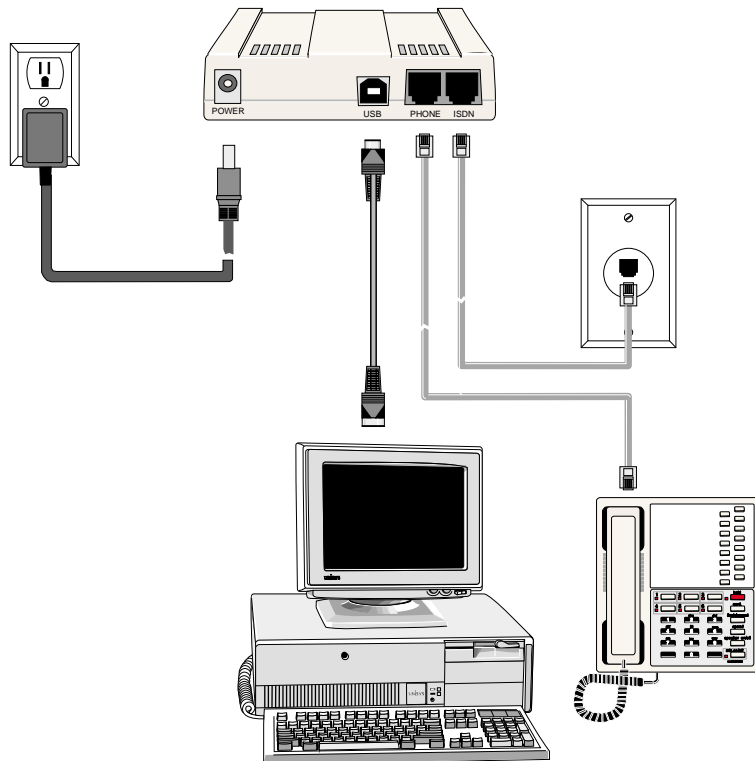

Figure 2-3. MTA128ST-USB Connections
Place the MTA128ST-USB terminal adapter in a convenient location. In a typical configuration, you will need to connect your MTA128ST-USB to your computer's USB port, to its own power supply, to the ISDN network terminator, and to any optional analog equipment you are using (e.g., a telephone). Each cabling procedure is shown in Figure 2-3.
3. Plug the “D-shaped” end (Type B) of your USB cable into the USB connector on the back of the unit (See Figure 2-3).